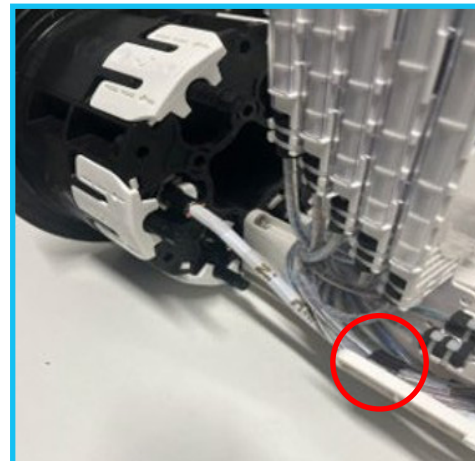

Figure 11.3
2. Attach the water blocking tape section to the basket using Velcro [figure 11.3].